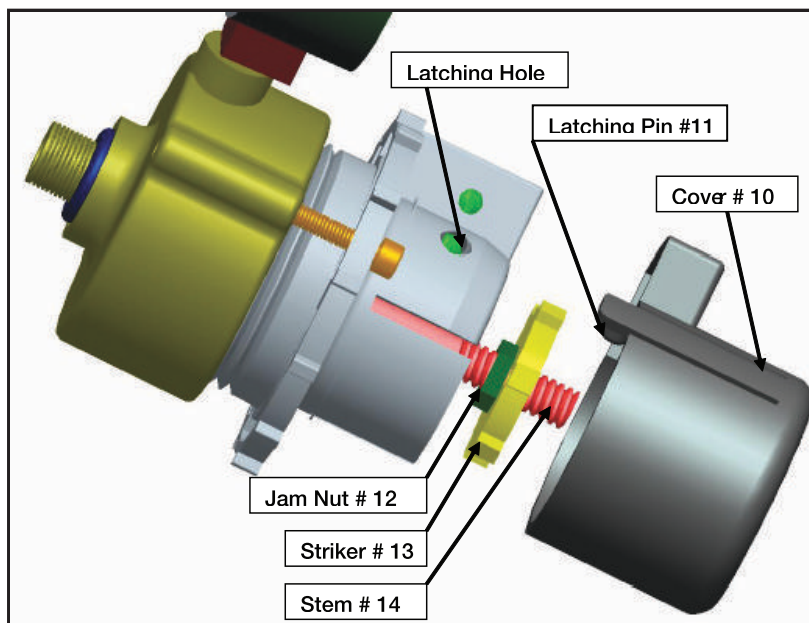

Figure 8. Adjustability
- 7.1 Turn the pump “off” and remove the valve Cover (item # 10). Use a flat screwdriver to release latching pin (item # 11). Pull the cover out. (See Figure 8)